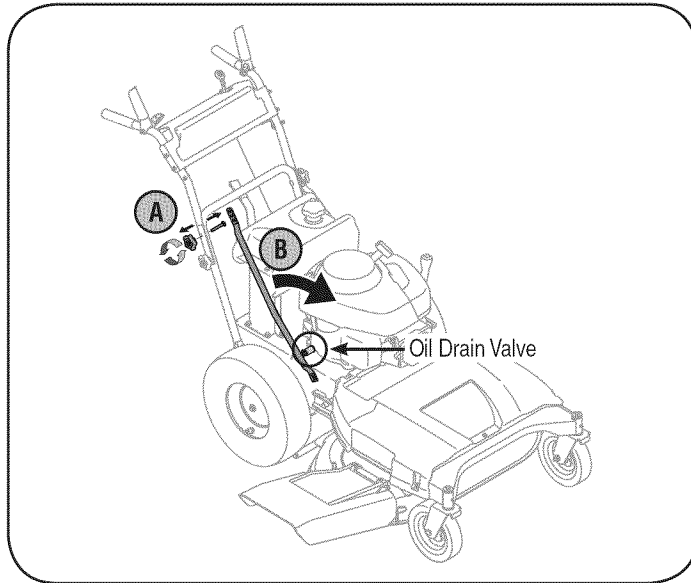

Figure 11
- a. Remove the upper star knob and carriage screw on the right side of the handle, Figure 11.
- b. Pivot the brace tube towards the front of the mower to allow room to connect the oil drain hose to the oil drain valve, Figure 11.